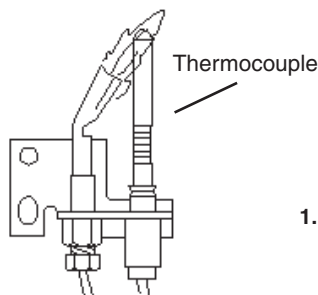

Fig. 15-1
1. If the burner control valve knob is not in the **OFF** position, push in the gas control handle slightly and turn clockwise ↻ to **OFF** (Fig. 15-1). Refer to the PARTS LIST for the location of the burner control valve knob.
2. Turn the burner control knob counter-clockwise ↺ to **PILOT** (Fig. 15-1). Push the control handle all the way in and hold it. Hold a long fireplace match or lighter near the thermocouple to light the pilot. Continue to hold the control knob for approximately 30 seconds after the pilot is lit to allow the thermocouple to detect the pilot flame, then release the knob. The pilot will remain lit.
2. Turn the gas control handle counterclockwise ↺ to **ON** (Fig. 15-1) to ignite the burner. The burner will ignite.
Note: Periodically check the pilot flame for the proper flame pattern (Fig. 15-1).
MAKE SURE THE THERMOCOUPLE AND PILOT ASSEMBLY ARE IN CORRECT ALIGNMENT WITH EACH OTHER (Fig. 15-1).